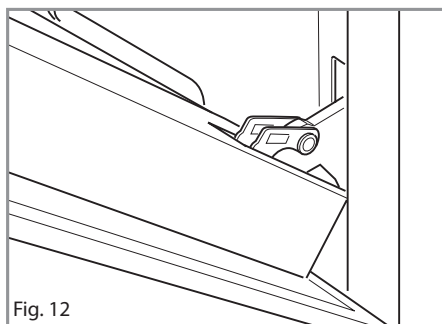

Fig. 12
1. Make sure the door is locked open (see fig. 12).